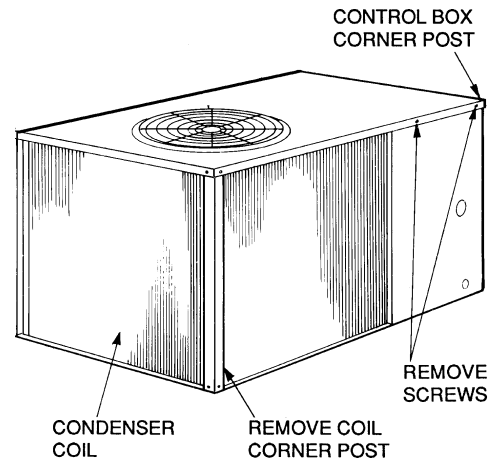
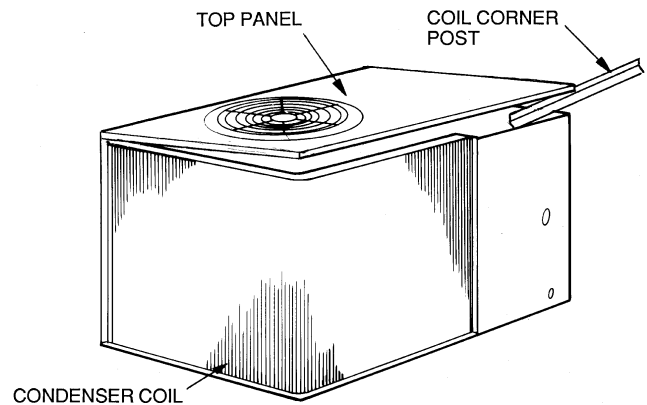

Fig. 10 — Cleaning Condenser Coil
Fig. 11 — Propping Up Top Panel
3. Remove condenser coil corner post. See Fig. 10. To hold top panel open, place coil corner post between top panel and side panel. See Fig. 11.